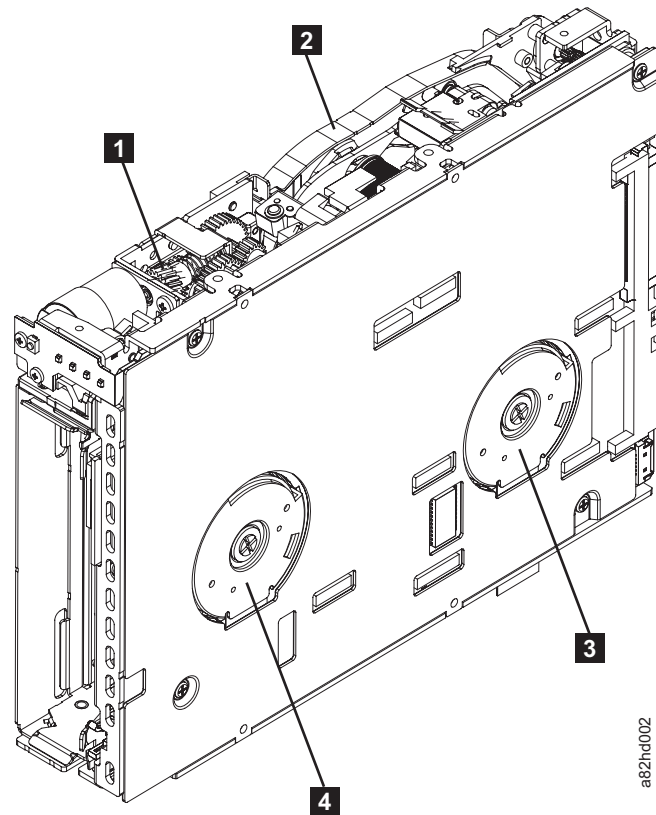

Figure C-6. Rewinding tape into cartridge
6. Turn the supply reel ( **4** in Figure C-6) clockwise, carefully guiding the mended portion of the tape to wind around the hub of the supply reel located inside the cartridge. Continue spooling into the cartridge until the tape is taut. The tape must remain within the flanges of the tape guiding rollers. Turn the supply reel ( **4** in Figure C-6) 10 additional turns. Ensure that you do not stretch the tape.